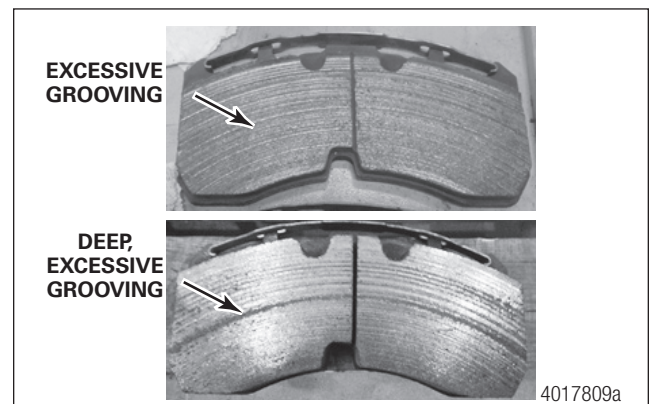
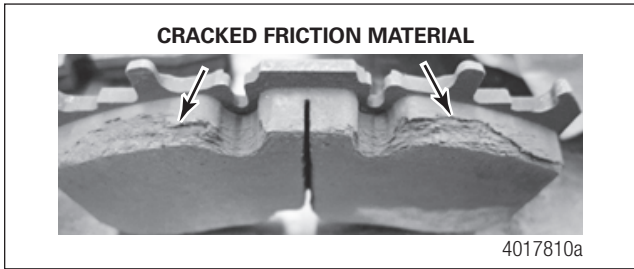

Figure 6.11
Figure 6.12
- Inspect the brake pads for excessive grooving or cracked friction material. Check if the friction material is loose or detached from the backing plate. If necessary, replace the brake pad assemblies as directed above. Figure 6.11 and Figure 6.12.